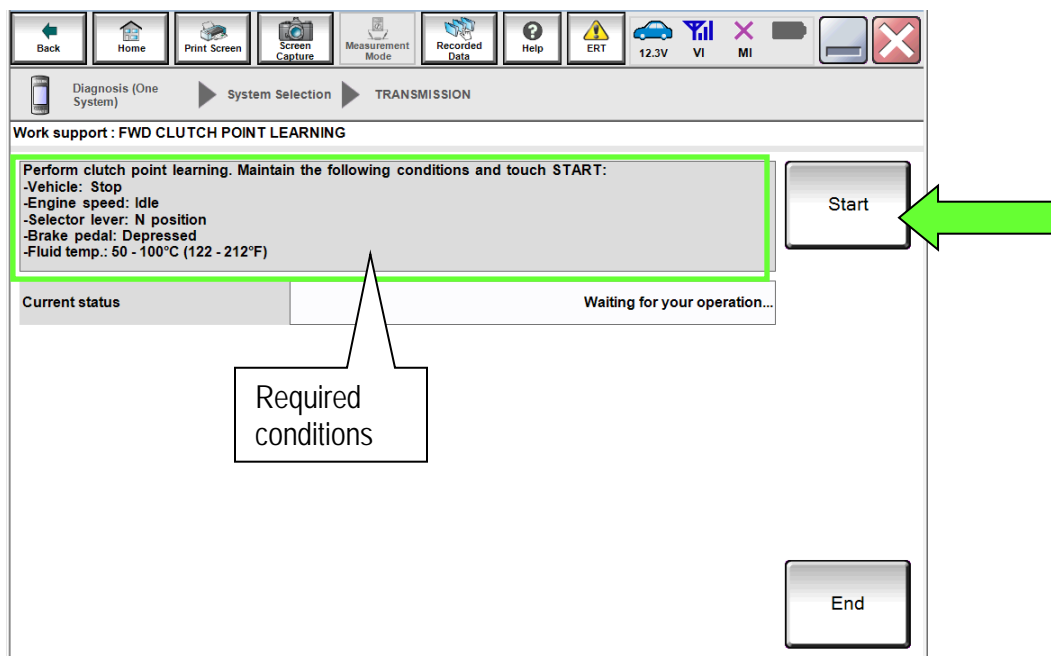

Figure 49
26. With the engine still running and at idle, depress the brake pedal and shift the CVT into neutral (N).
- Confirm that all of the required conditions indicated in Figure 49 are being met.
28. While maintaining all conditions shown in Figure 49 and the “Current status” indicates “EXECUTING”, shift the CVT into **D** and then wait until the Current status indicates “COMPLETED”.